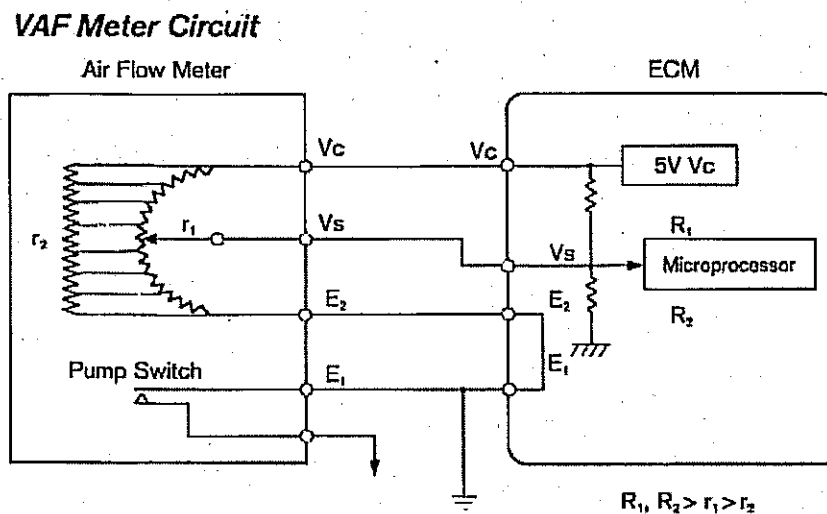

Figure Q4-2
- Explain the operation of Vane Mass Air Flow sensor shown in Figure Q4-2?